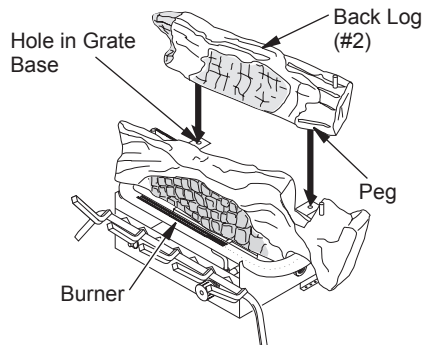

Figure 22 - Installing Back Log (#2)
2. Locate pegs on the bottom of back log (#2). Slide these pegs into the holes in the grate base behind the burner (see Figure 22).